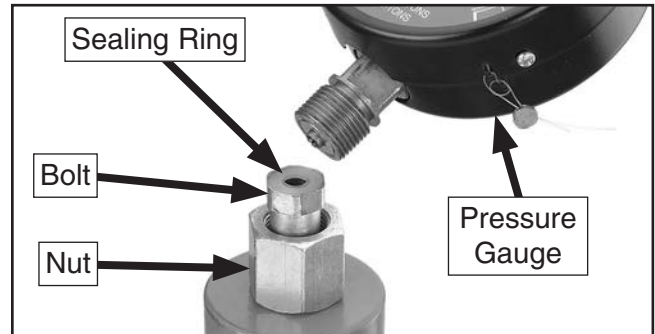

Figure 14. Hydraulic gauge installation.
17. Remove the plastic cap on the pressure gauge and piston housing bolt (see **Figure 14**). Thread the nut onto the gauge and secure with 16mm and 27mm wrenches. Do not use Teflon tape or thread sealant on this type of fitting, as it uses a sealing ring.